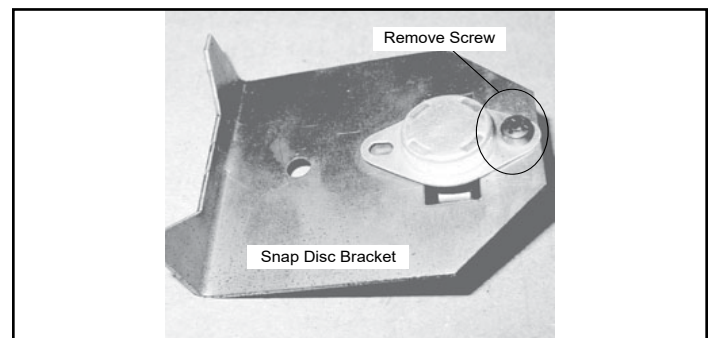

Figure 25.3
7. Using a #2 Phillips screwdriver, remove the screw securing the snap disc to the bracket (**Figure 25.3**).